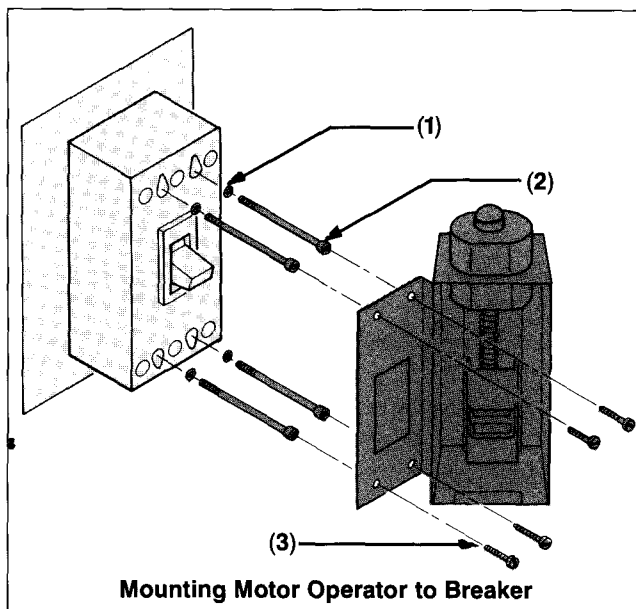
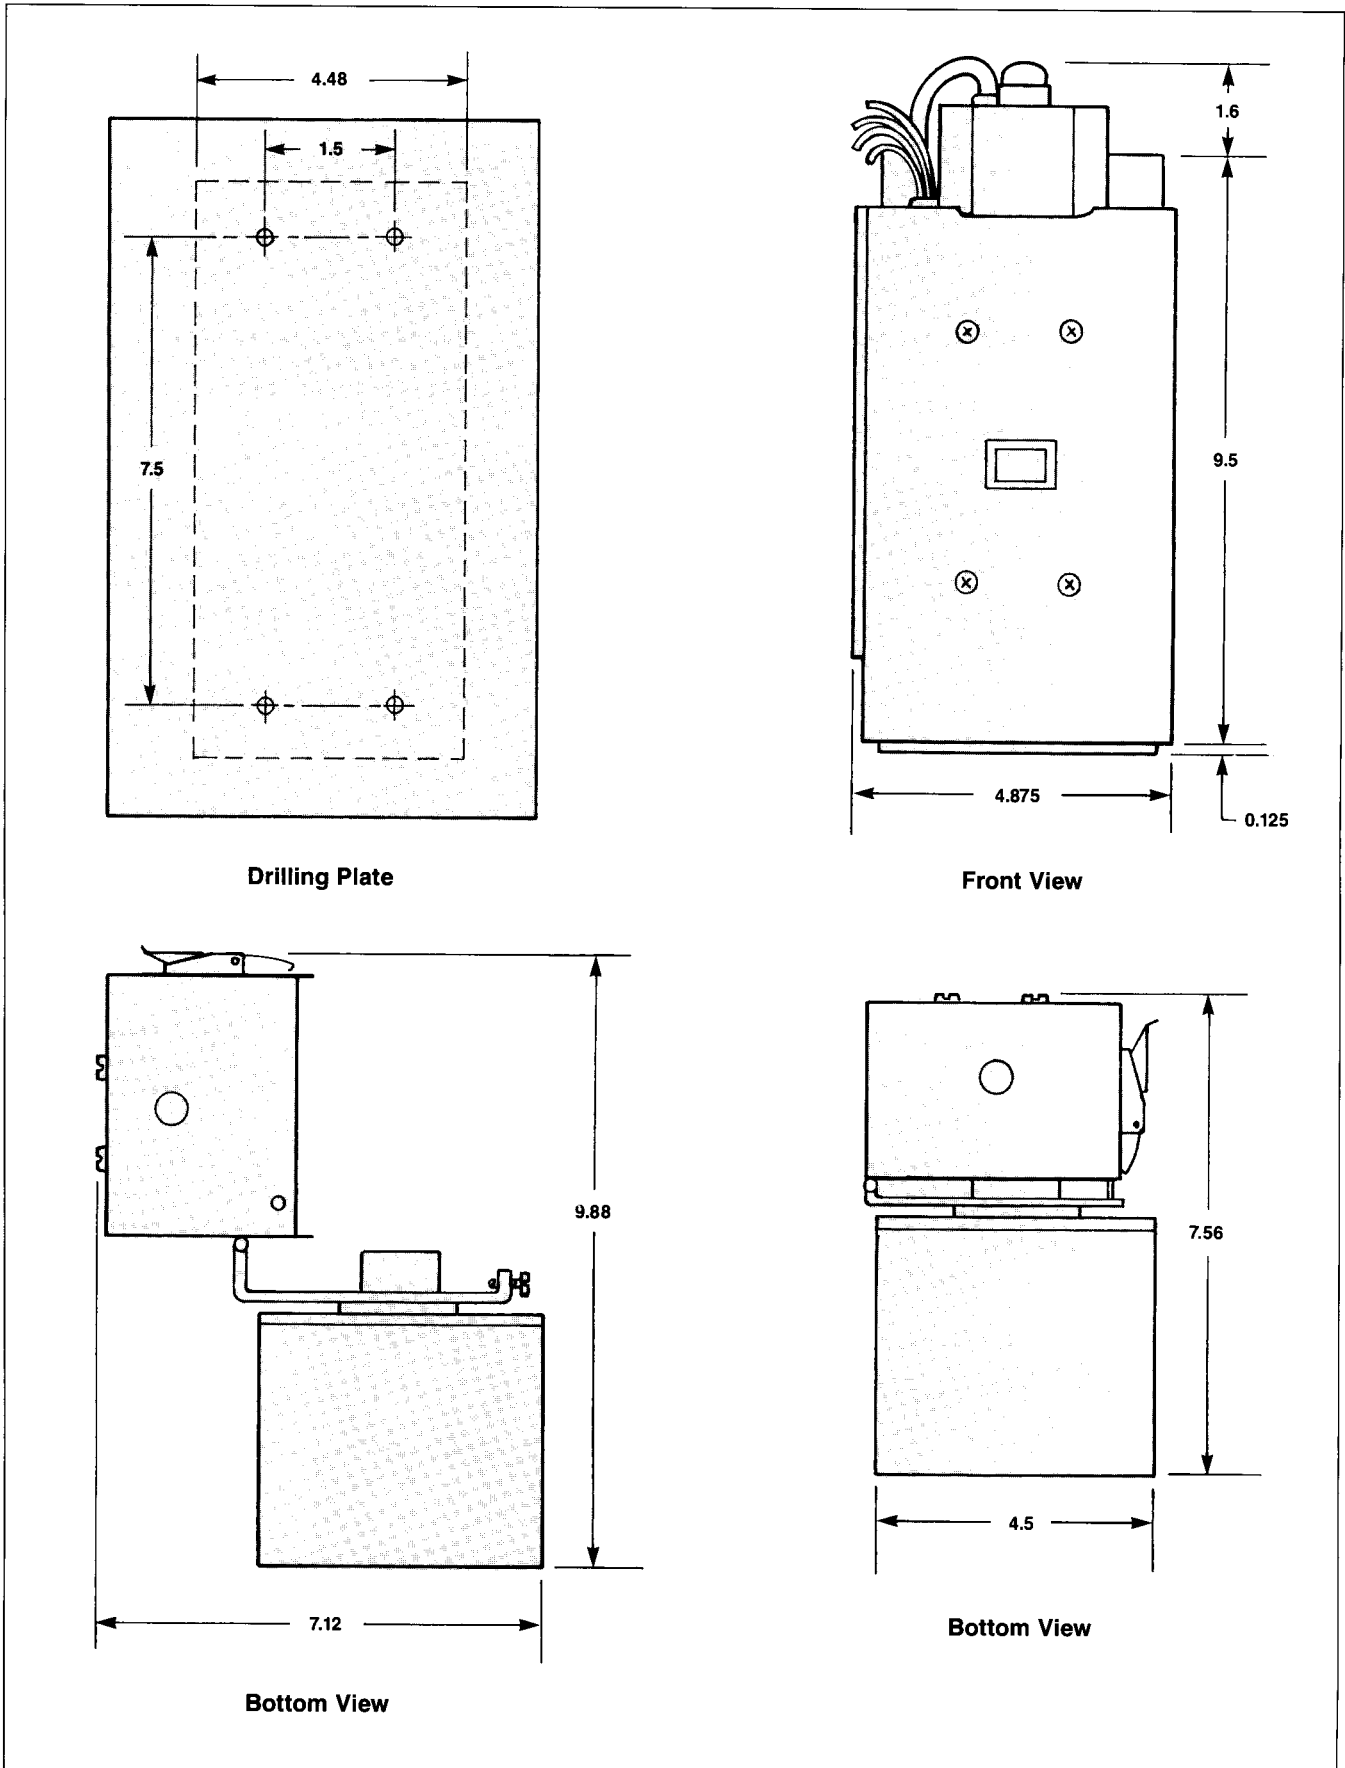

Figure 1
Figure 3
G. Place bottom spring (11) over the bottom thin wall hex nut inside the enclosure door.
H. Turn the handle 1/4 turn clockwise (looking from inside the enclosure door) and attach the latch plate roller to the handle shaft, while inserting the bent leg of the spring into the hole in the latch plate. Fasten with a locking-type flange nut. Tighten the nut, then loosen 1/8 turn to allow movement of the roller assemblies (Figure 1).
NOTE: Straight leg of spring must rest against pin (12) on handle plate. See inset on Figure 1.
I. Place top spring (13) over top thin wall hex nut. Attach lockout plate (14) to lockout screw using locking type flange nut. Tighten flange nut. Insert bent leg of spring into hole in lockout plate as shown in Figure 1 detail.
J. Attach the interlock defeater lever (15) to the latch bar (16) with two #10 lockwashers and #10-24 screws.
NOTE: The position of lever depends on enclosure depth (Figure 3).
- Attach the circuit breaker to its mounting surface using the mounting washers (1) and mounting screws (2) supplied with the motor operator (Figure 1). Refer to installation dimensions (Figure 3).
- With its cover open, attach the motor operator to the circuit breaker using four #10-32 truss head mounting screws (3) provided (Figure 1).